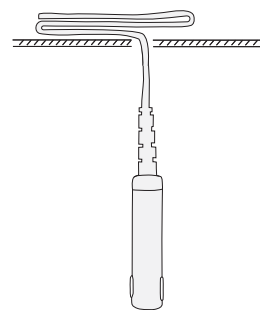

Figure 10
- Hanging via the cable in the vertical position as shown in Figure 10.